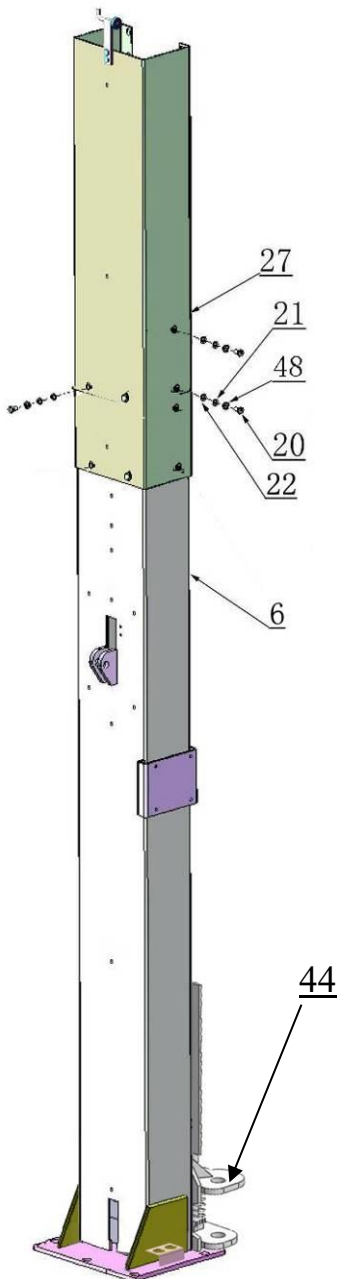

Fig. 15 Low Setting
1. When the ceiling height is less than 151 1/2" for OH-10, 175 5/8" for OH-10H, connecting the extension columns with the upper hole **(See Fig.15).**